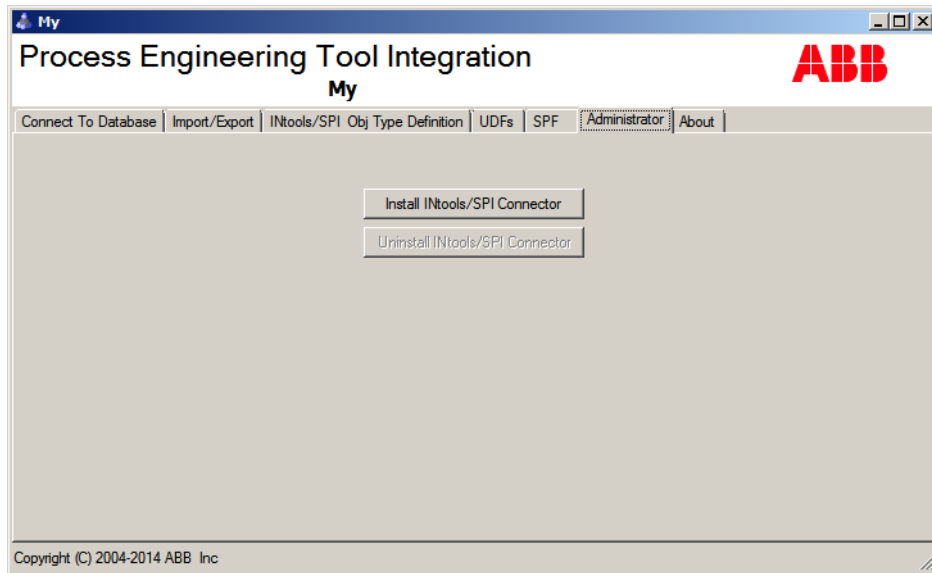

Figure 55. Administrator Tab
5. Click **Install INtools/SPI Connector**, see Figure 55.